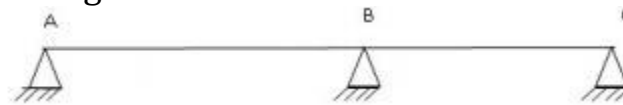

Fig.1
- (iii) What is the degree of kinematic indeterminacy of the beam shown in Fig.1, if the axial deformation is ignored?